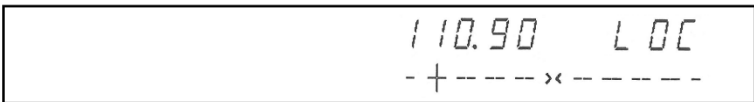

Figure 7-4. Active LOC Frequency/CDI Format
- c. When the active window is tuned to a localizer frequency, the standby frequency area is replaced by “LOC” (Figure 7-4).